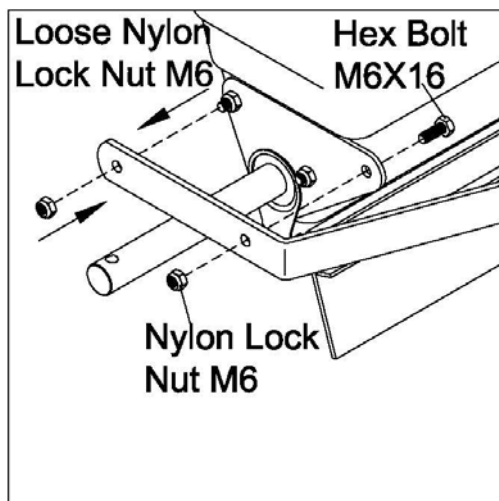
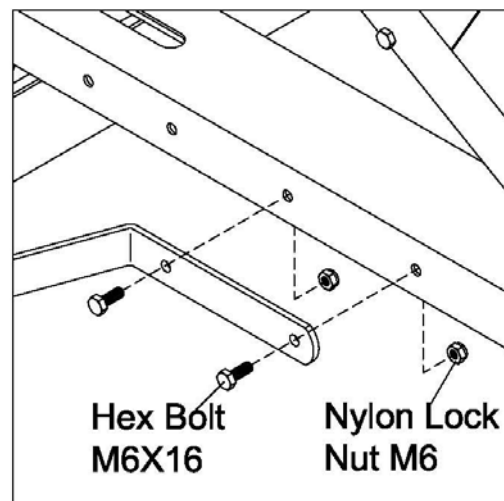

Figure 11
Figure 12
- Loose one Nylon Lock Nut M6 from the hopper (show with the arrow), then fix one end of Support Polo to the bolt on hopper, then secure the support polo with the removed Nylon Lock Nut M6. Fix another hole on Support Polo with the hopper by using a Hex Bolt M6x16 and Nylon Lock Nut M6. See Figure 11. Do not TIGHTEN the bolts and nuts. Fix the other end of Support Polo to the Hitch Tongue by using two Hex Bolt M6x16 and Nylon Lock Nut M6. Do not TIGHTEN the bolts and nuts. See Figure 12. Assemble the other support polo in same way. Then adjust the position of Hitch Tongue and Support Polo, then tighten all the bolts and nuts.